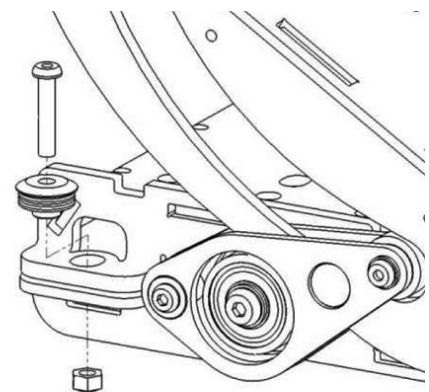

Fig. 26. Mount the screws, spring washers and nuts on the left and right hand side.
13. Mount the screws, spring washers and nuts on the left and right hand side. See fig. 26.